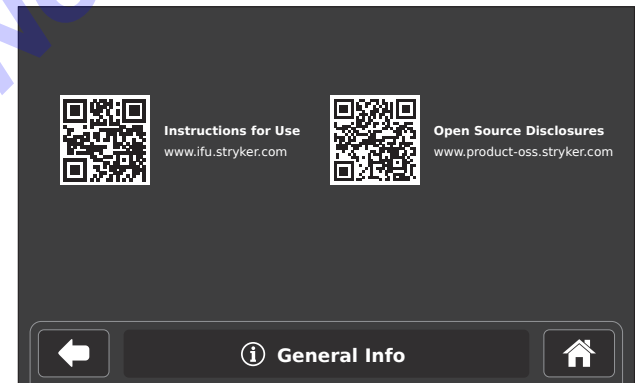

Figure 20 – General Info Screen
**NOTE:** The General Info screen provides URLs and QR codes to access electronic versions of the Instructions For Use and Open Source Software disclosures for the console (Figure 20).